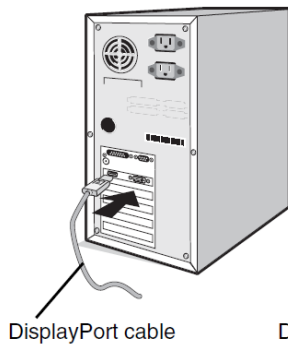

Figure A.1
2. For a PC with DisplayPort output: Connect the DisplayPort cable to the connector of the display card in your system (Figure A.1).